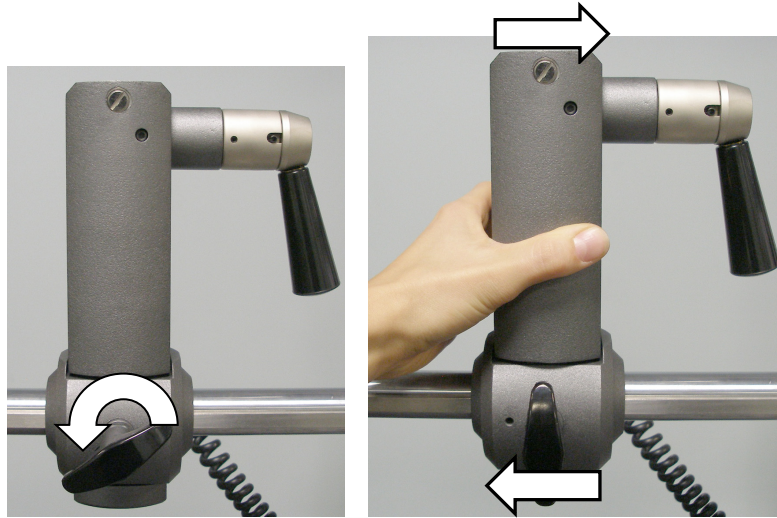

Figure 10-9. Locking Handle on a UTM Side & Moving the UTM Side along the Bar
- Step 1. Locate the locking handle, which is on the bottom front side of the UTM side (Figure 10-9).
- Step 2. Rotate the locking handle 1 turn counter-clockwise (Figure 10-9).
- Step 3. Move the UTM side to its desired location. Note that the UTM side moves best when it is grasped closer to the bottom section, which is near the locking handle (Figure 10-9).